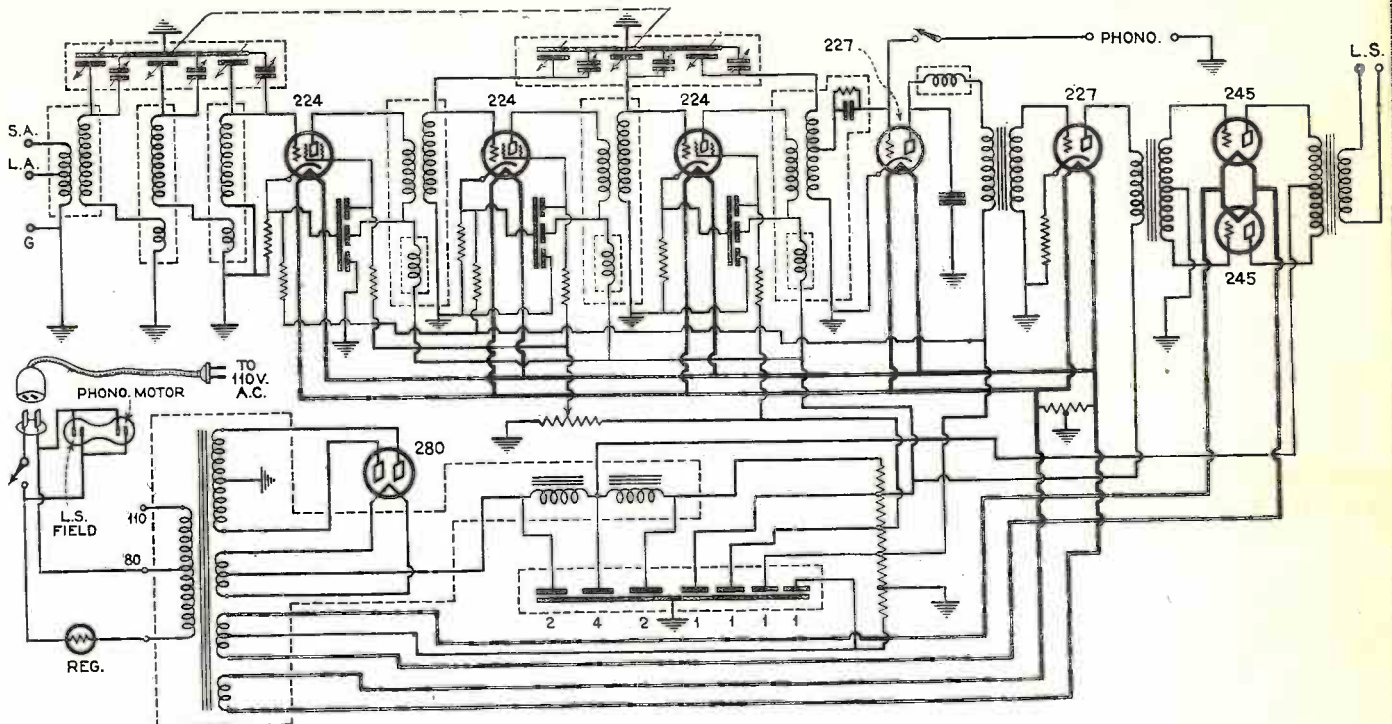

Fig. 70 - Hammarlund "Hi-Q 30" A.C. Receiver.
The band selector, or band-pass filter as it is also called, consists essentially of two or more tuned circuits loosely coupled together. This gives a flat-topped resonance curve which, by proper design, can be made to have a flat top 10-kilocycles wide, thereby accepting the entire program, sidebands and all, giving a high degree of selectivity without distortion. The band-selector circuits may be found ahead of the R.F. amplifier, at the input side; they may be part of the amplifier circuit, or may be placed between the amplifier and the detector. Various combinations are possible. In many sets, as in the Sparton "Model 49," (a diagram of which will be found in the back of this book) the band selector will be found between the aerial and the R. F. amplifier, and an untuned or aperiodic R.F. amplifier is employed. That is, the R. F. transformers are of special design to cover the entire broadcast band without tuning. Incidentally, three-electrode tubes are employed in this set. In the Hammarlund "Hi-Q 30 A.C." receiver, a diagram of which is reproduced in Fig. 70, band-selector tuning is employed between the aerial and the amplifier, as well as tuned stages in the amplifier, giving six tuned circuits in all. The six tuning condensers, illustrated in the upper left side of the diagram, are controlled simultaneously by one dial. The six trimmer condensers are also shown. Note the R.F. chokes in the plate-supply leads of the screen-grid tubes; these leads, as well as the grid return leads and screen-grids, are by-passed to the filament through large condensers.
(10) Screen-Grid Control. Controlling the positive bias voltage on screen-grid tubes makes a very efficient volume control in sets employing these tubes. This is the method employed in the Hammarlund receiver shown in Fig. 70. It is indicated at V.